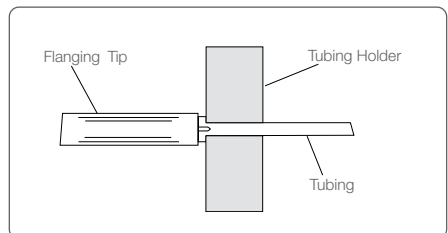

Figure 3. Pinching method to engage flanging tip.
3. Firmly pinch the tubing holder between the fingers with one hand and with the other, engage the heating iron tip with a slight orbital movement at first, and then squarely into the tubing (Figure 3).